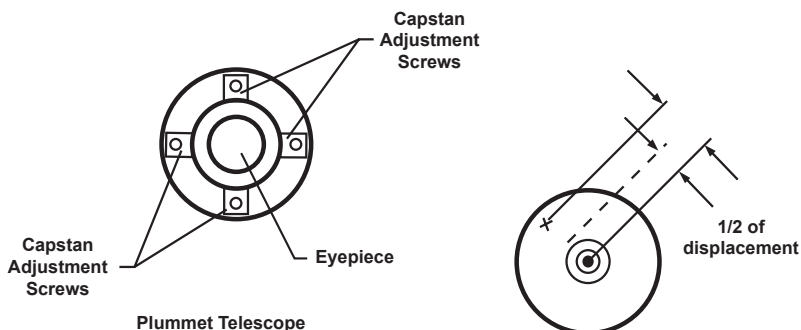

Figure A-6. Adjusting the Optical Plummet Telescope
1. Take off the adjustment section cover of the optical plummet telescope eyepiece. This will expose four capstan adjustment screws which should be adjusted with the accessory adjusting pin to shift the center mark to the point. However, only half of the displacement is corrected (Figure A-6).